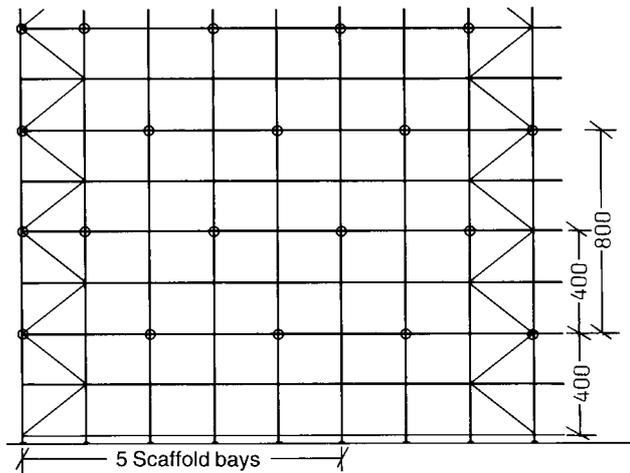

Fig. 69
- b) zigzag arrangement with a single bay (fig. 69).